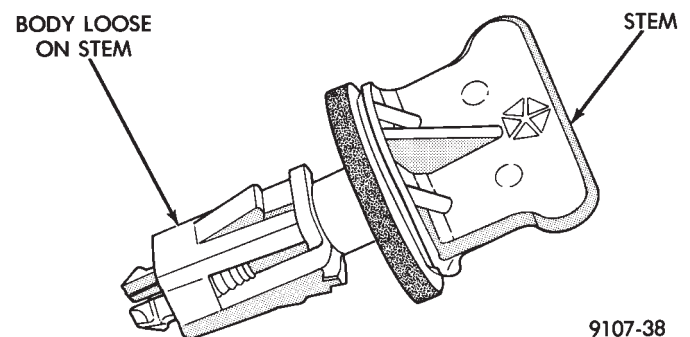

Fig. 3 Draincock Assembled for Installation (Typical)
(1) Check the draincock to be sure the body is installed loosely on the stem (Fig. 3). If the stem is screwed into the body, the draincock cannot be installed into the tank opening.
(2) Push the loosely assembled draincock assembly into the tank opening until it snaps into place.